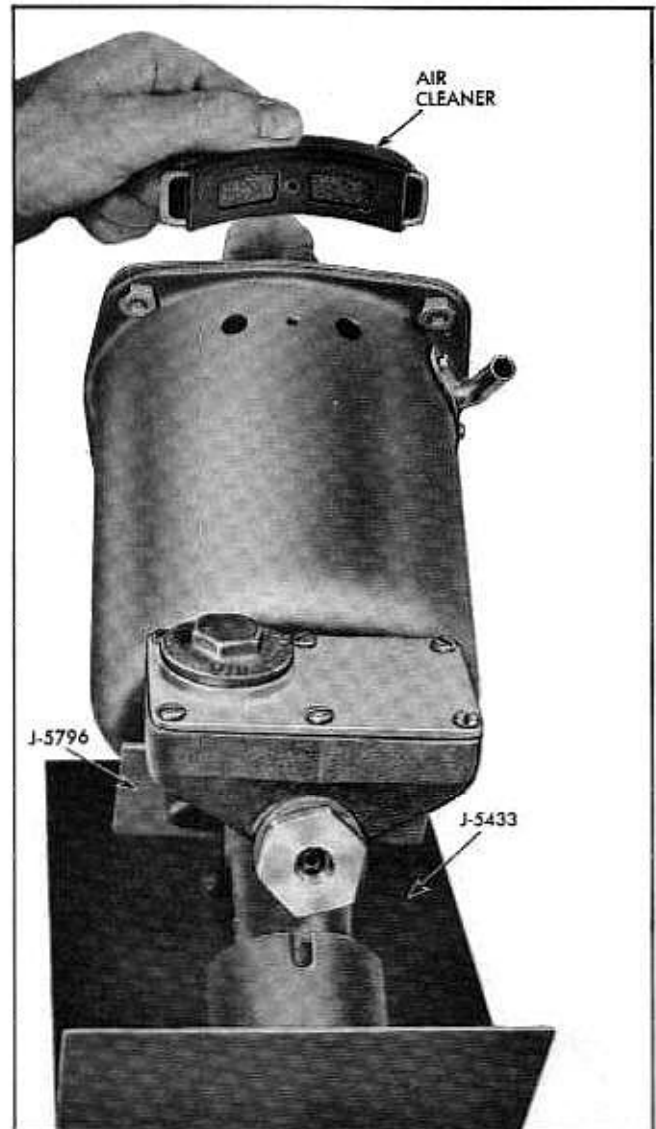

Fig. 5-39 Removing or Replacing Air Cleaner Assembly
The Moraine Power brake unit can be identified by the cast iron master cylinder and cast iron filler cap (Fig. 5-39). The Bendix Power brake unit can be identified by the die-cast hydraulic cylinder and pressed steel filler cap (Fig. 5-17).
2. Clamp master cylinder end of unit in vise or mount unit in special holding fixture J-5433 with adapter J-5796 (Fig. 5-39). Remove screw that holds air cleaner unit outside of power cylinder. Removal of the air cleaner unit must precede disassembly of internal parts to avoid damage to large leather piston cup inside power cylinder housing.